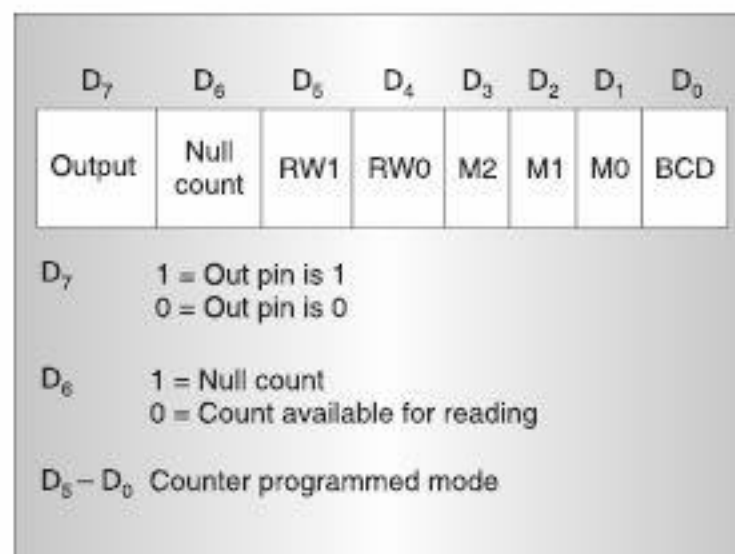

Fig. 5.40 Status Byte.
This single command is functionally equivalent to several counter latch commands, one for each counter latched. Each counter's latched count is held until it is read (or the counter is reprogrammed). The counter is automatically unlatched when read, but other counters remain latched until they are read. If multiple count read-back commands are issued to the same counter without reading the count, all but the first are ignored, i.e., the count which will be read is the count at the time the first read-back command was issued. The read-back command may also be used to latch status information of selected counter(s) by setting STATUS bit D₄ = 0. Status must be latched to be read; status of a counter is accessed by a read from that counter. The counter status format is shown in Figure 5.40. Bits D₃ through D₀ contain the counter's programmed Mode exactly as written in the last Mode Control Word. OUTPUT bit D₇ contains the current state of the OUT pin. This allows the user to monitor the counter's output via software, possibly eliminating some hardware from a system. NULL COUNT bit D₆ indicates when the last count written to the counter register (CR) has been loaded into the counting element (CE). The exact time this happens depends on the Mode of the counter and is described in the Mode Definitions, but until the count is loaded into the counting element (CE), it can't be read from the counter.